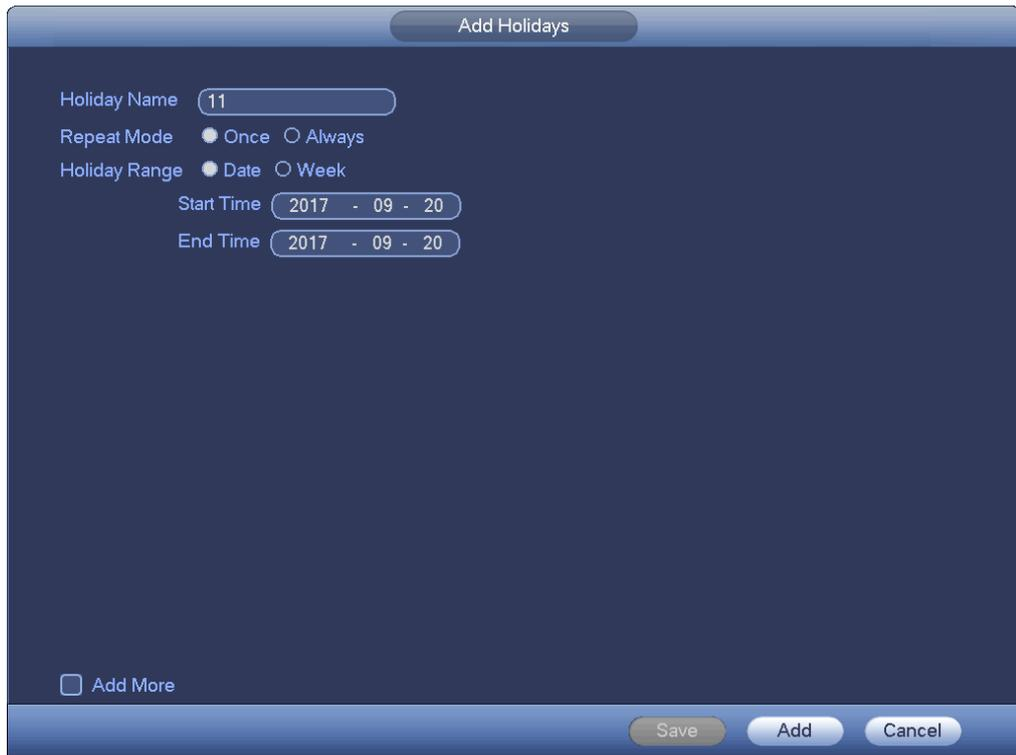

Figure 2-14
Step 2 Click Add new holiday button, device displays the following interface. See Figure 2-14.